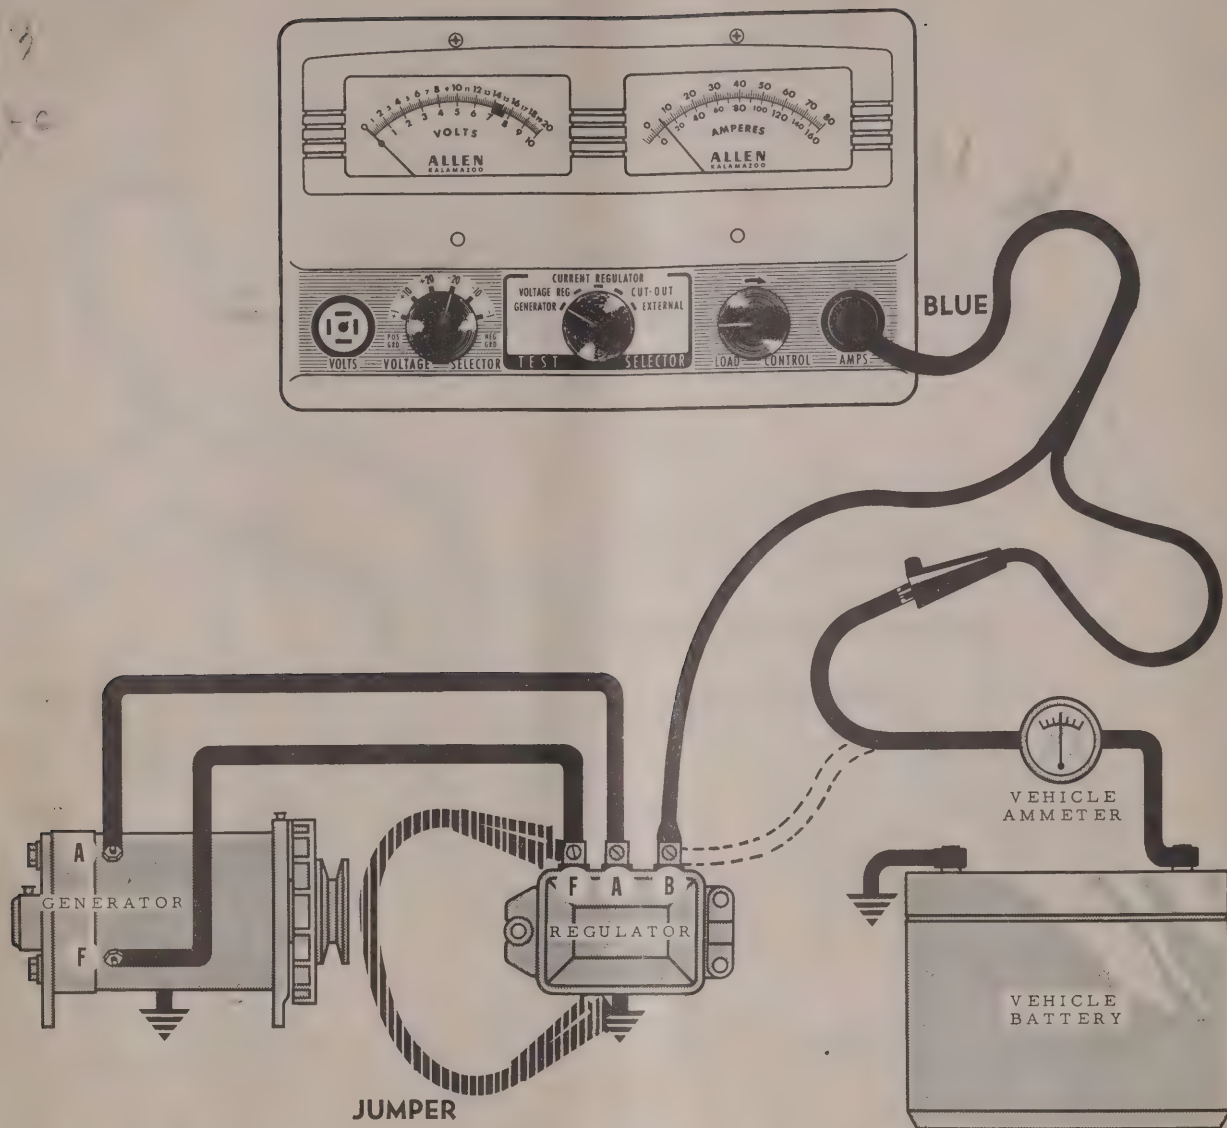

FIG. 6
2. Make connections as shown, Figure 6, do not connect JUMPER until later.